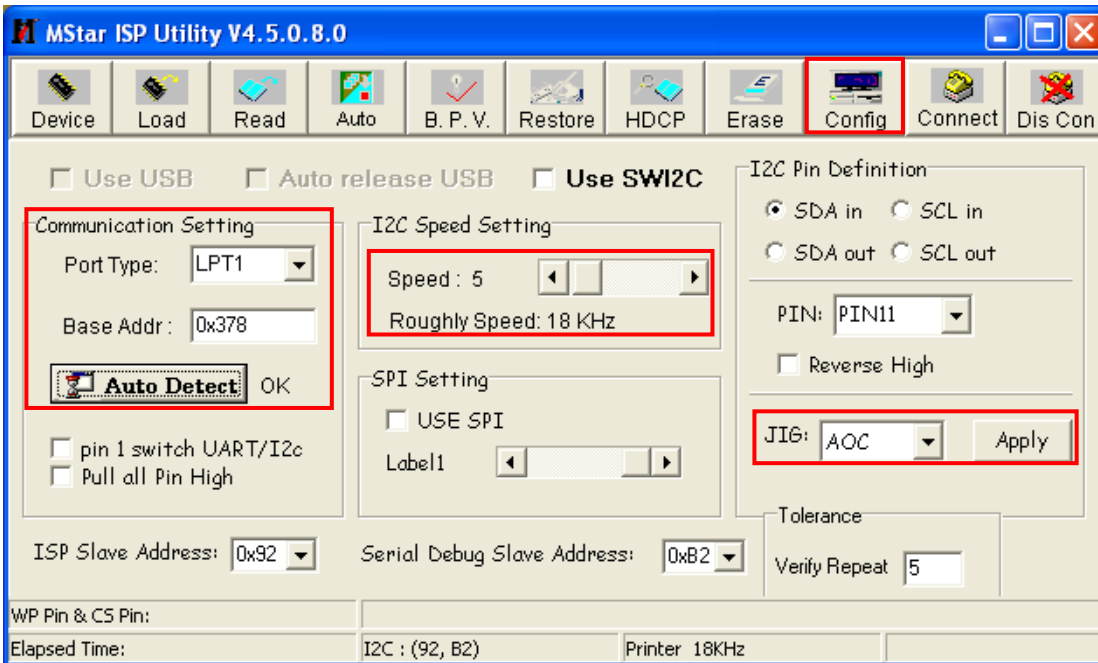

Fig5
- 4.3. Click the “Config” to set the parameter as figure5. Click “Apply” after selecting AOC in “JIG”. Select “LPT1” and the Speed less than 50kHz. After all click “Auto Detect”, if show “OK” which presents the communicate OK, you can do next.